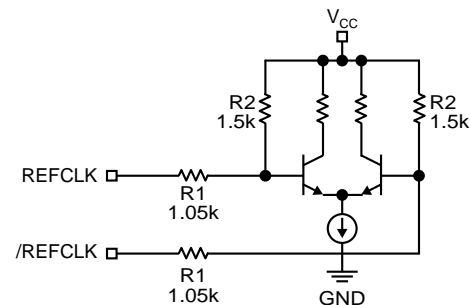

Figure 3. Simplified Input Structure
- 100Ω termination across the output pair is NOT recommended for LVPECL. See “*Output Termination*” section, Figures 3 to 5.